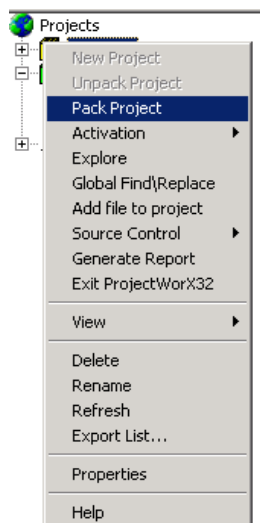

Figure 4.16
1. Select a Project, right-click and select **Pack Project**. Also you can select the same option from Action Menu. See **Figure 4.16**: